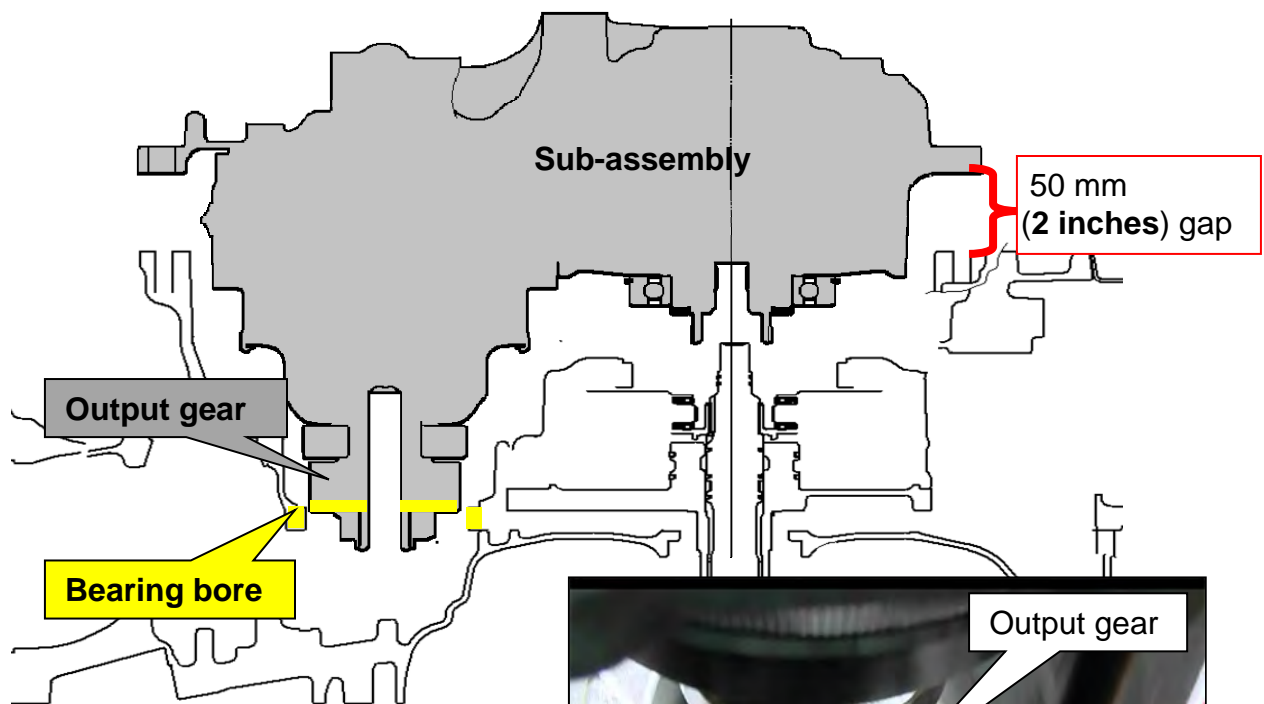

Figure 23E
- Interference is present between the output gear and bearing bore and are highlighted with yellow in Figure 23E and 24E.